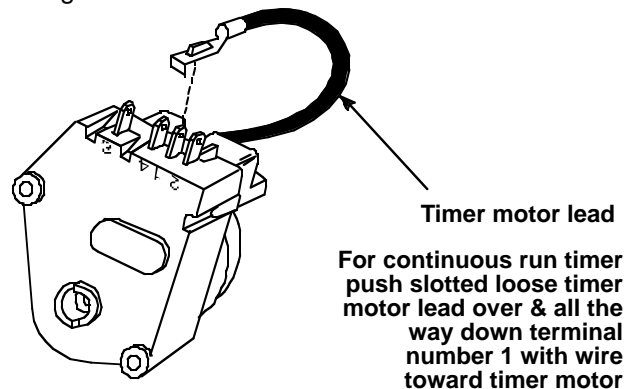

Figure 9
2. Connect loose wire to terminal #1. (Use numbers only. Disregard any letter description on timer cover.) See Figure 9.